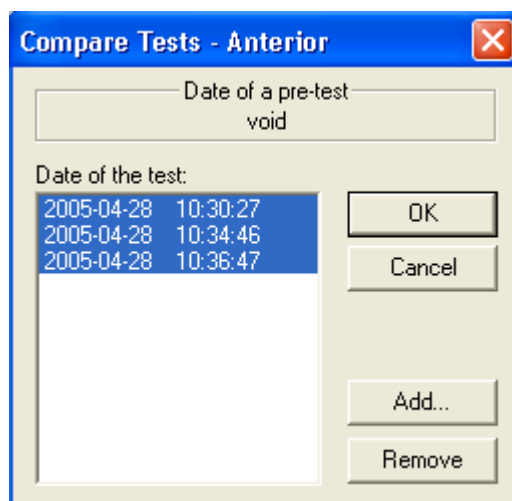

Fig. 15. Dialogue box *Compare tests*
2. Select *Compare* (menu *File*). The dialogue box *Compare tests* (\Rightarrow Fig. 15) appears on the screen. On the list *Test date* an item with the test date that was open in item 1 will be highlighted.